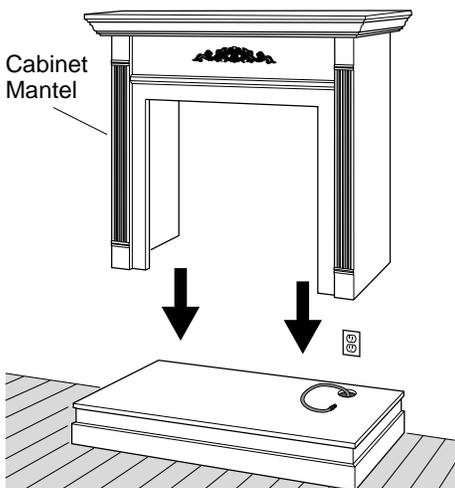

Figure 25 - Installing Cabinet Mantel
- After heater is secured, replace mantel on hearth base (see Figure 25). Make sure mantel is flush against wall. Install brass trim (see page 7).